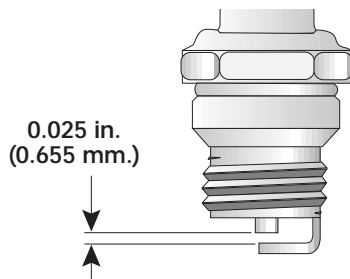

Fig. 29
3. Replace cracked, fouled or dirty spark plug. Set the air gap at 0.025 in. (0.655 mm.) using a feeler gauge (Fig. 29).